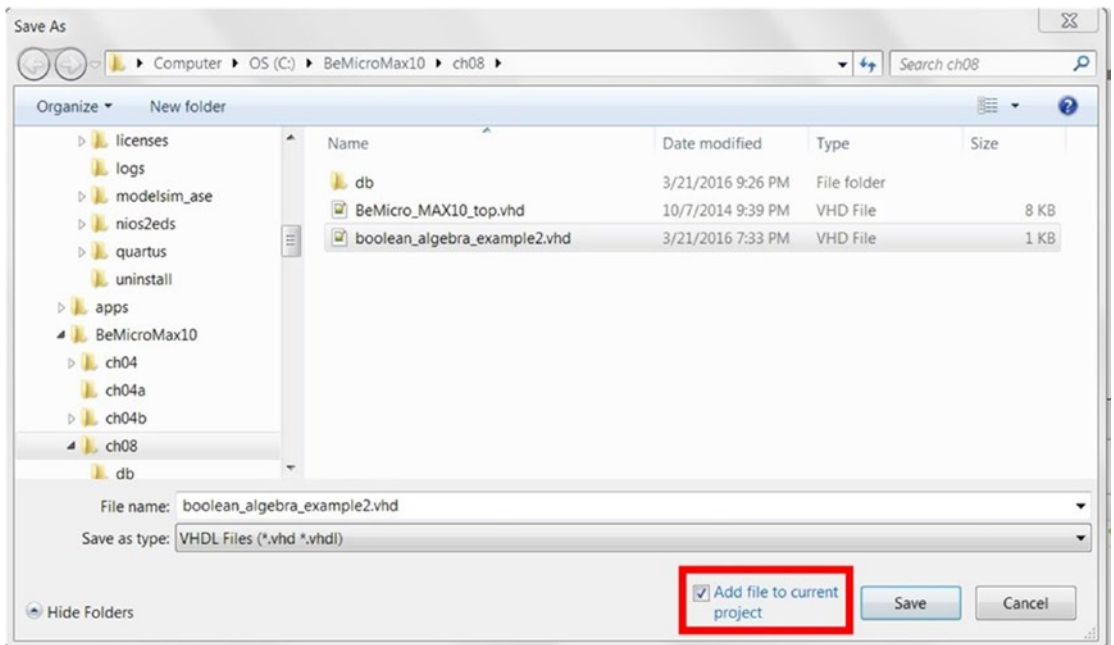

Figure 8-5. Save the VHDL file as `boolean_algebra_example2.vhd`
4. Copy the code from Listing 8-2 into the new VHDL file and save the file as `boolean_algebra_example2.vhd` with the check box Add file to current project ticked (Figure 8-5).